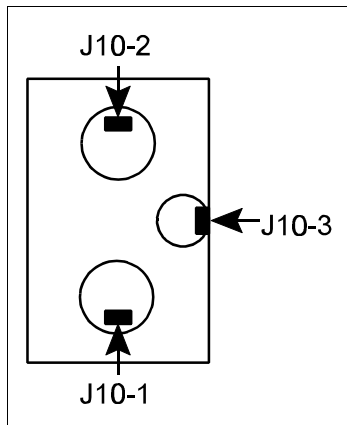

Figure 4 Filter Pins
7. Attach the receptacle contact ends of the UPS filter wires to the power filter. Refer to figure 4. Connect opposite ends of these wires to the AC distribution strips 2A3A17 and 2A3A18 as indicated by their wire markers.